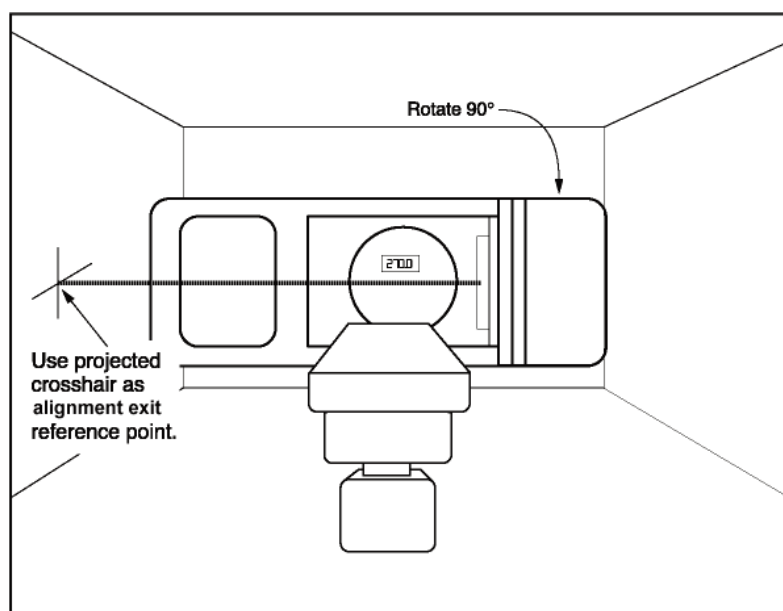

Figure 3
1. Rotate the gantry 90° to the 270° position and project a crosshair onto the wall. See Figure 3 on page 11.